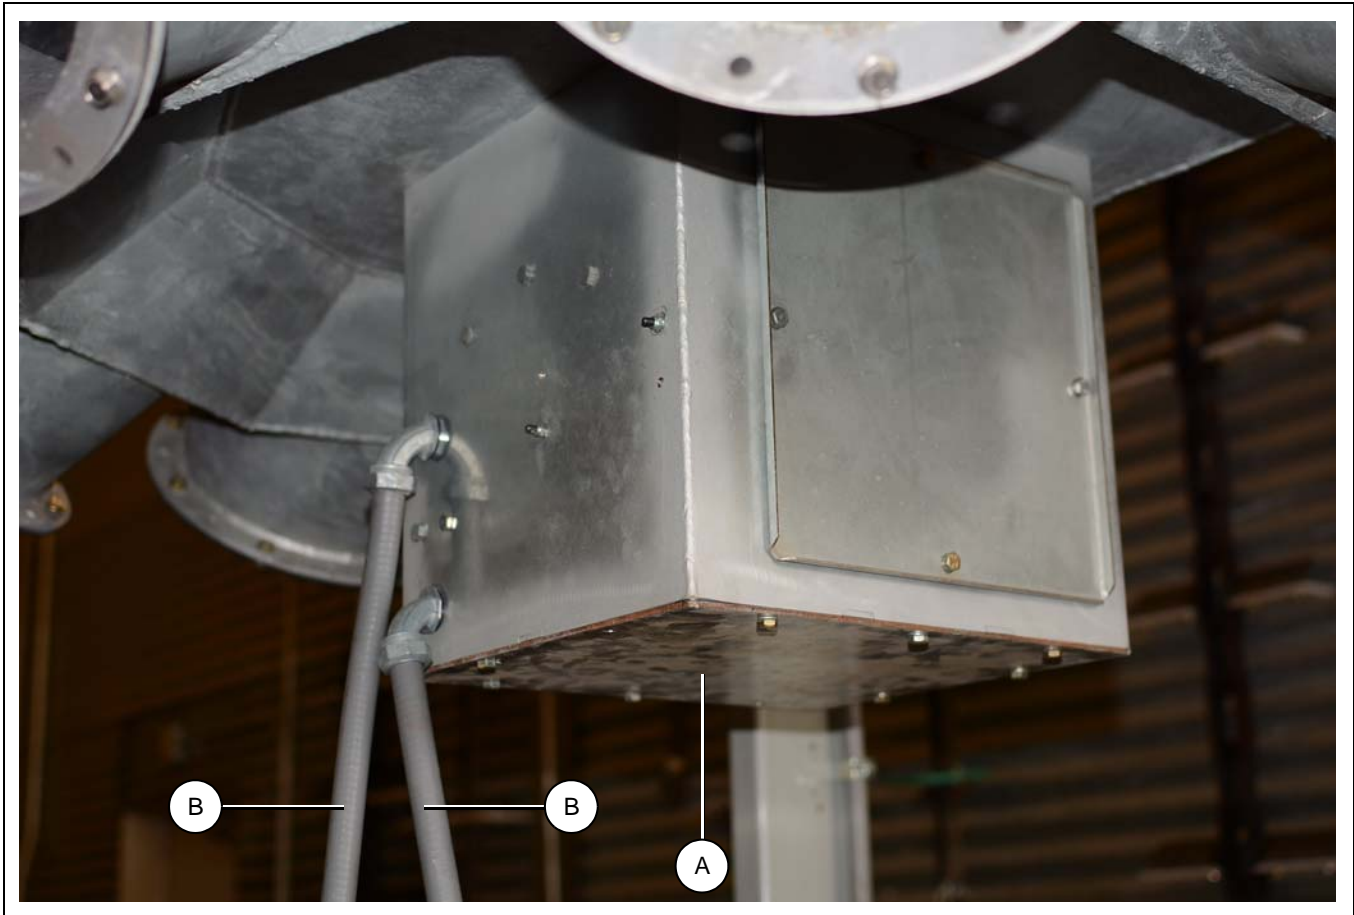

Figure 3B Cable Fitting Connections to Distributor Enclosure
Conduit for motor wiring should be run out of enclosure (A) to the panel installed at ground level. Conduit for sensor wiring should be run from enclosure (A) to panel installed at ground level. Appropriate fittings for conduit selection must be used at all connections. (See Figure 3B.)